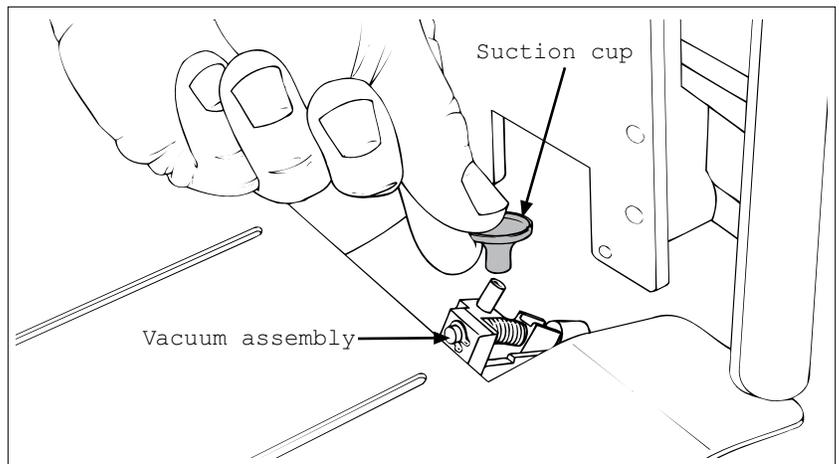

Figure 2-11. Removing Suction Cup from Vacuum Assembly
2. Remove suction cup from vacuum assembly (Figure 2-11).